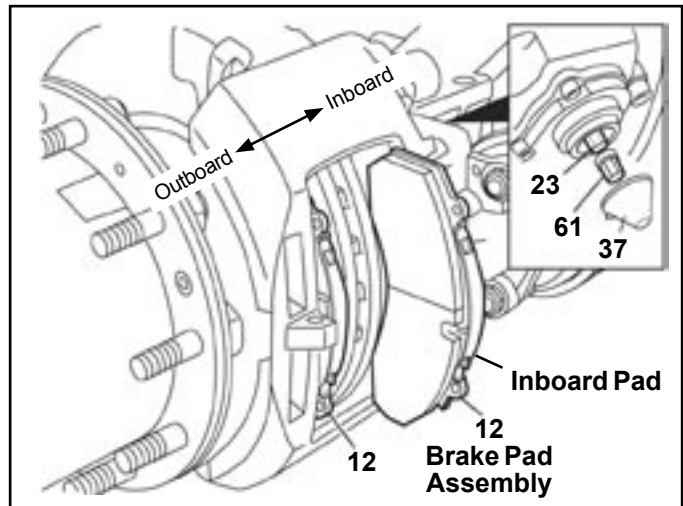

FIGURE 32 - BRAKE PAD REMOVAL
(1) fully to the outboard position first. Similarly, to remove the inboard pad, first move the caliper fully to the inboard position, and then remove the pad. See Figure 32.